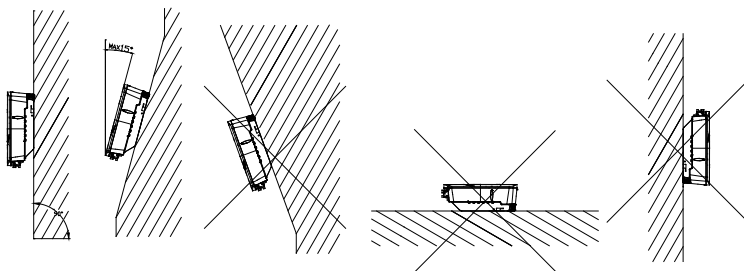

Figure 4.1 Mounting method
- ① The equipment employs natural convection cooling method, and it can be installed indoor or outdoor.
- ② Please install the equipment under the guidance of Figure 4.1. Vertical installation on floor level is recommended. Mount vertically or tilted backwards by max. 15°. Never install the inverter tilted forwards, sideways, horizontally or upside down.
- ③ Considering convenience for maintenance, please install the equipment at a position in parallel with line of sight.
- ④ When mounting the inverter, please consider the solidity of wall for inverter, including accessories. Please ensure the Rear Panel mount tightly.